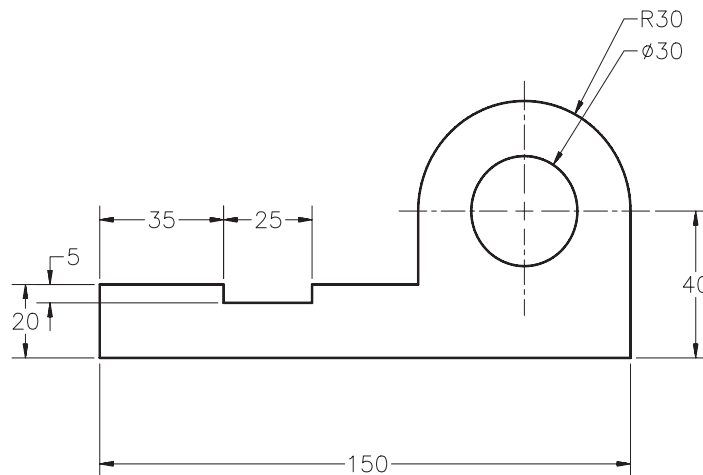

Figure 19-40 Sketch for Tutorial 1
In this tutorial, you will open the sketch created in Tutorial 3 of Chapter 2, add dimensions to the sketch, as shown in Figure 19-40, and extrude the sketch up to a depth of **50 mm**. Then, you will add equations to the dimensions of the sketch. The dimension **150** will be the driving dimension. While adding equations, you can change the vertical dimensions **20** and **40** to **25** and **50**, respectively, for the convenience of calculation. (Expected time: 30 min)
- Add relations and dimensions to fully define the sketch, refer to Figure 19-40.